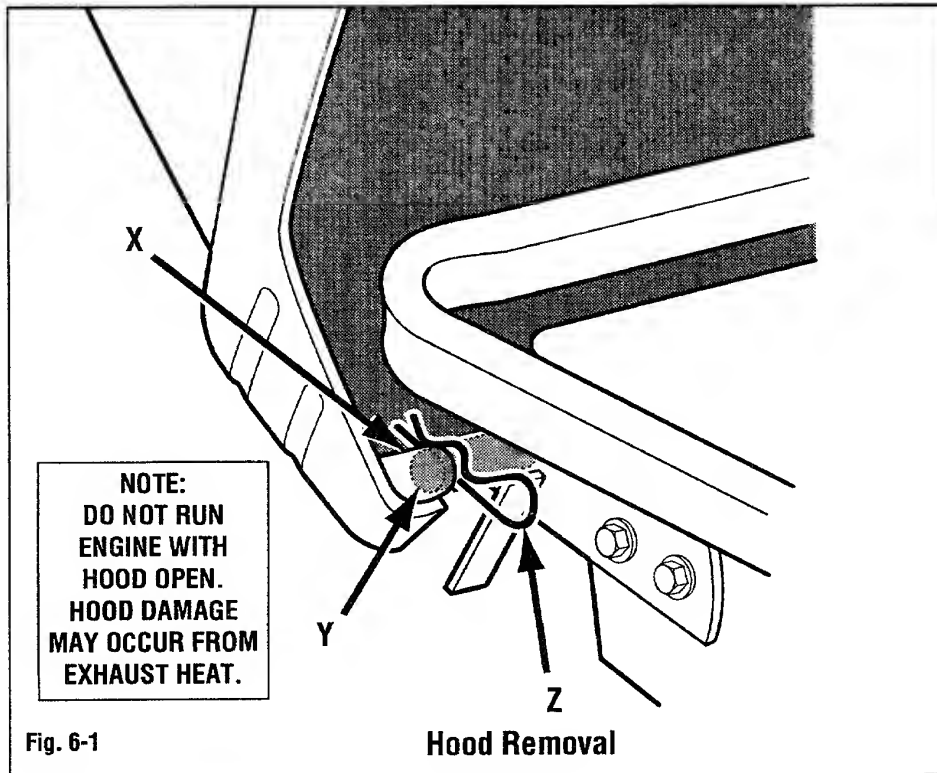

Fig. 6-1
Open hood. Unplug headlight harness from headlights. On left side of unit, remove hair pin (Z, Fig. 6-1). Pull pivot pin (Y) into frame until it clears hood. Remove hood.